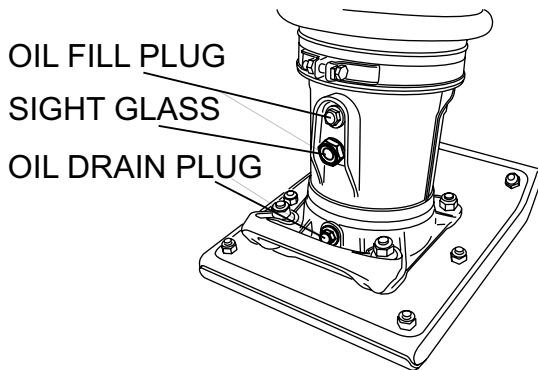

Figure 3. Foot Housing Sight Glass
1. Check the oil level through the oil level sight glass (Figure 3) at the rear of the tamper foot.
2. If oil is not visible, add 10W-30 SE, SF or higher grade motor oil into the oil fill plug opening (Figure 3). The bath contains approximately 1.3 pints (650 cc.)